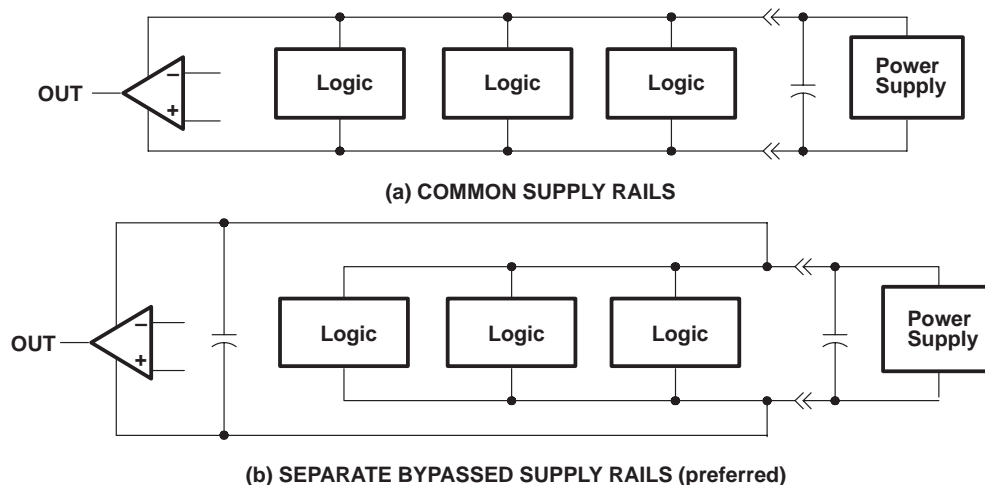

Figure 39. Common vs Separate Supply Rails
1. Power the linear devices from separate bypassed supply lines (see Figure 39); otherwise, the linear device supply rails can fluctuate due to voltage drops caused by high switching currents in the digital logic.